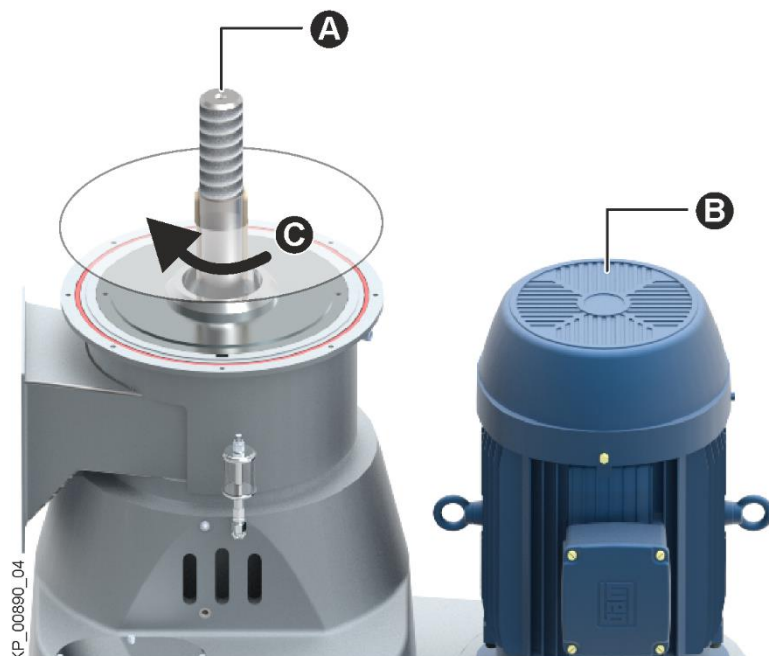

Fig. 13: Direction of rotation of the machine
- Switch on the drive motor (Fig. 13/B) for a short time.
- Check the direction of rotation of the main shaft (Fig. 13/A).
The drive motor must drive the main shaft (Fig. 13/A) of the machine clockwise (Fig. 13/C).